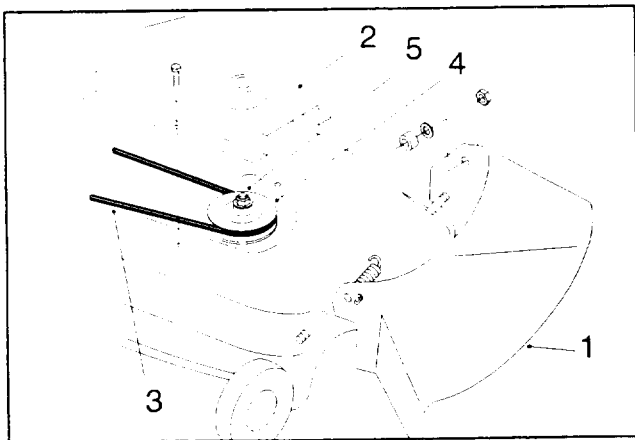

Figure 1
2. Remove the grass deflector and belt cover from the mower (Fig. 1). Save both the deflector and the belt cover for use if you remove the bagger later and want to discharge grass to the side.
3. Rotate the mower drive belt off the pulley (Fig. 1).